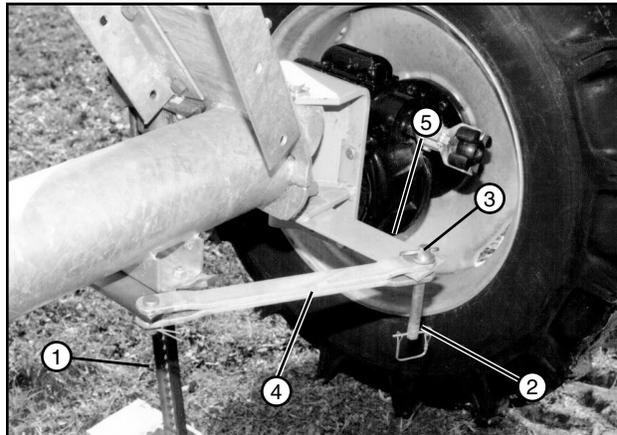

Figure 30-2 1. Jack 4. Tow Link Bar
2. The wheels on each drive unit must be turned into the operating position. Use a jack to lift one side of the drive unit until the tire is off of the ground. See figure 30-2.
3. Remove lynch pin from torque pin, then remove torque pin and disconnect tow link bar from steering arm. See Figure 30-2.